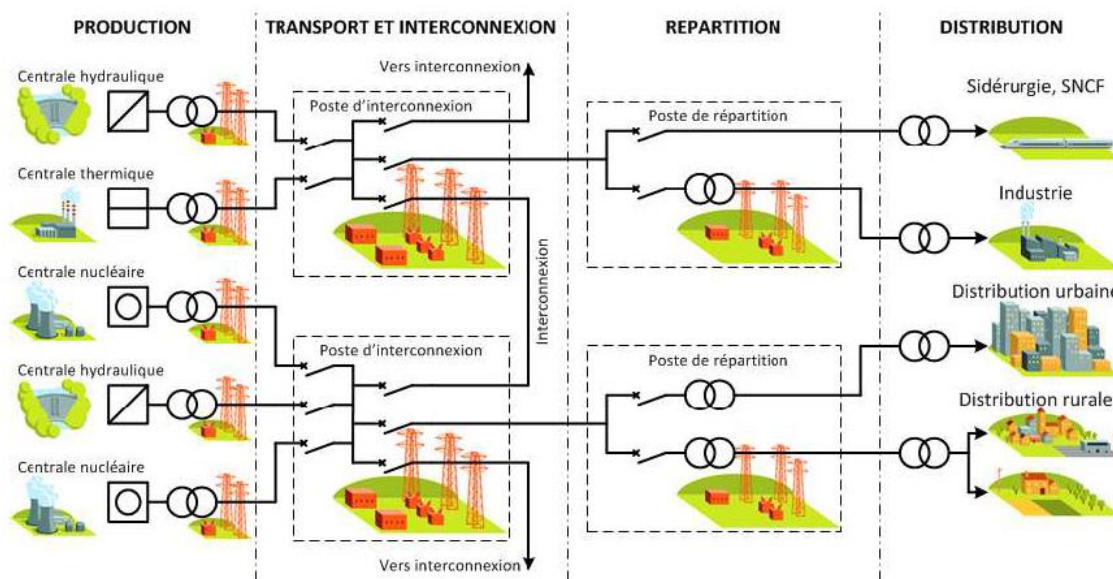

Figure 7. Structure of the transmission and distribution network
- **From production to use (Figure 7)**